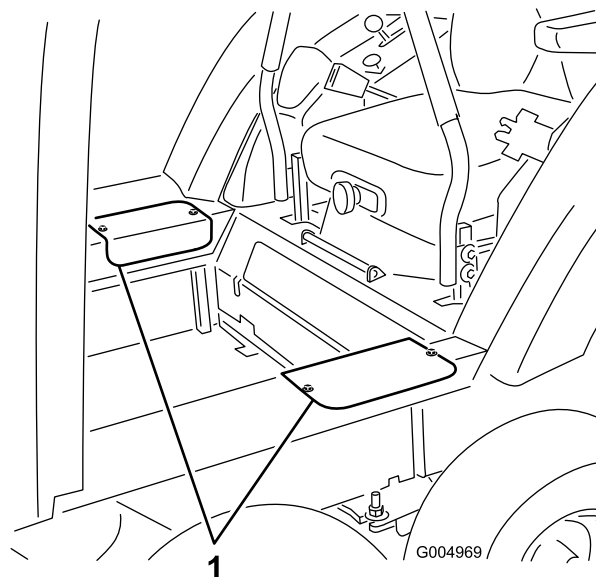

Figure 124
39. Install the side access covers with the screws previously removed (Figure 124).